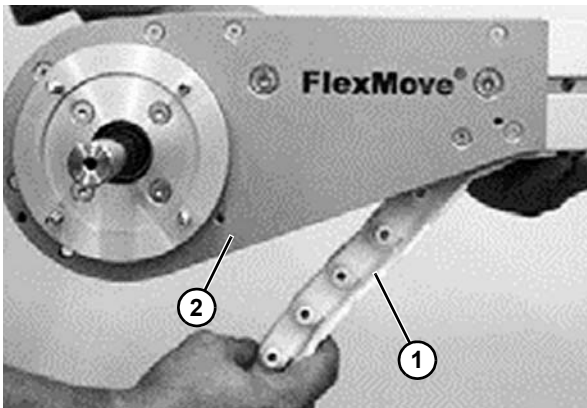
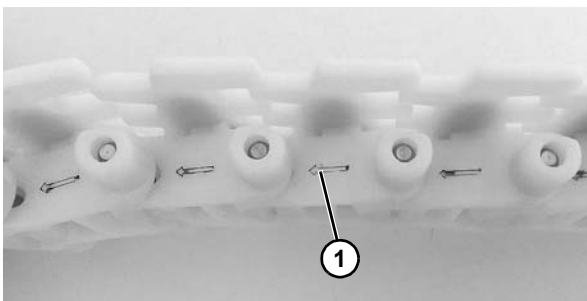

Figure 52
Figure 53
1. Insert the chain (**Figure 52, item 1**) into the underside of the drive unit (**Figure 52, item 2**). Make sure the chain will be moving in the correct direction, as indicated by the arrow (**Figure 53, item 1**) located at the side of all chain links.